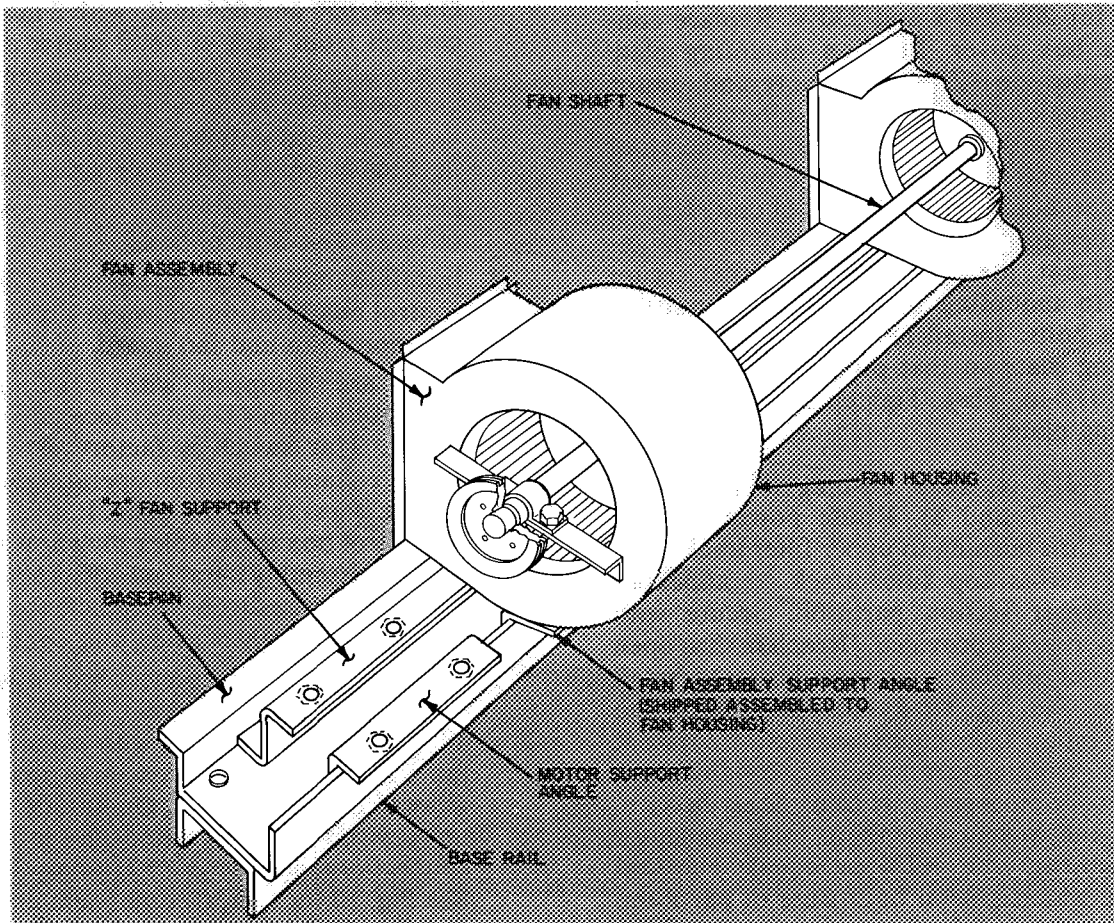

Fig. 5 — Exhaust Fan Installation Details
5. Insert fan assembly(s) in unit. Fan assembly(s) is shipped assembled to shaft. (See Fig. 5.) Fan pulley is shipped positioned and secured to shaft(s). Fan housings are ganged together with a support angle attached to fan assembly. Install fan assembly(s) in unit with extended shaft end (with pulley) facing filter access panel end of unit. Insert fan assembly thru front or end opening of unit as required. Rotate fans on shaft 90 degrees with fan exhaust opening up to facilitate passage of fan assembly thru unit opening. Position fans on "Z" support, aligning holes in fan exhaust openings with holes in support. Holes in support angle at rear of fan assembly align with holes in basepan (and ductwork, if drilled as in step 2). Using 5/16 x 3/4 screws from package, secure fan assembly(s) to "Z" support and basepan.
6. Install motor support angle (Fig. 5) to basepan with two 5/16-18 x 3/4-in. screws from package. Align weld nuts on top of angle with weld nuts on "Z" fan support.